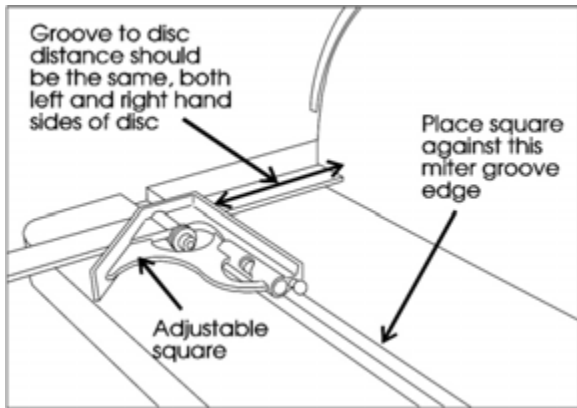

Figure 2: Using an adjustable square to set the table parallelism
3. Place a scale or adjustable machinist's square against either the left or right edge of the disc face and measure the distance to the miter slot edge (See Figure 2).